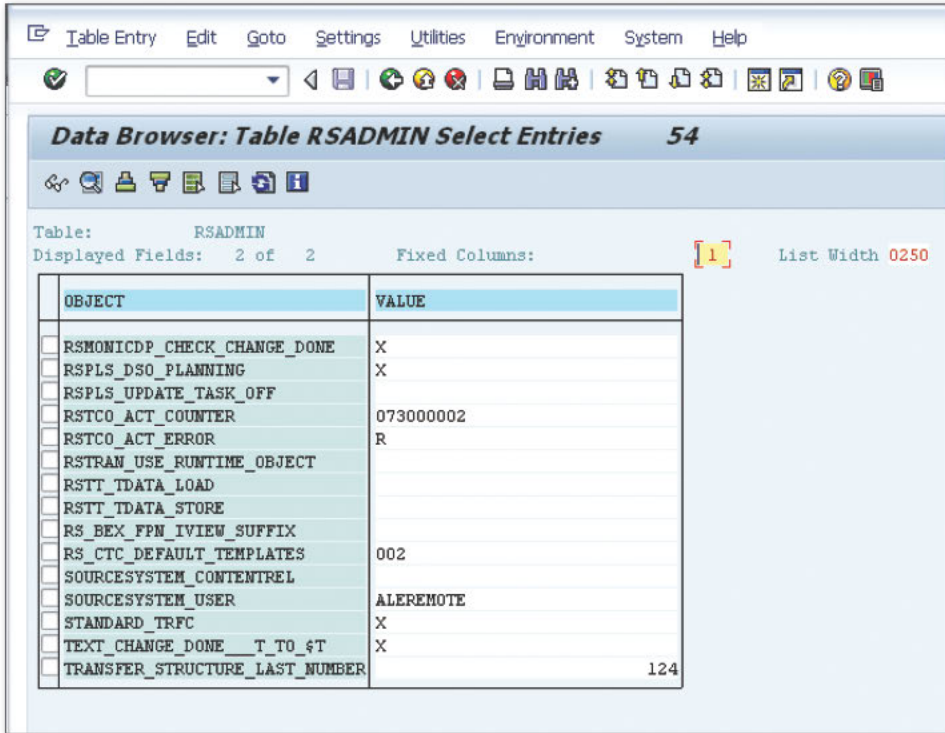

Figure 1 RSADMIN Setting to Enable DSO Planning
1. Go to Table RSADMIN, and set the parameter RSPLS_DSO_PLANNING as X (see Figure 1). This is a one-time system activity.